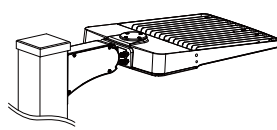

Figure 2-3
Step3:Fasten the pole cover to the pole after making sure the wires are connected correctly, Figure 2-3;